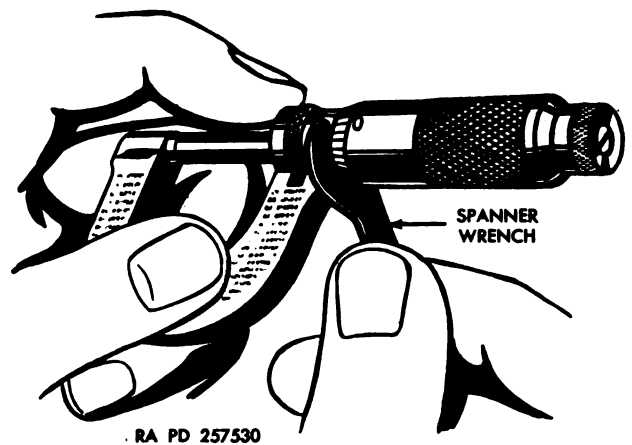

Figure 60. Micrometer adjustment.
i. In adjusting a micrometer to read correctly, the thimble is not set to 0 when the anvil is in contact with the spindle, but is set at some dimension to distribute the error. For example, if a micrometer screw had an accumulating error of 0.0003 inch in the length of its travel, and it were set correctly at 0, it would be off 0.0003 at 1 inch. However, if the micrometer were set correctly in the center of its travel, it would be 0.00015 under at 0 and 0.00015 over at 1 inch, which is a much better condition. Because a micrometer does not return exactly to 0 when anvil and spindle contact does not mean that it is not adjusted properly. Turn the friction sleeve with a small spanner wrench to compensate for minor wear on anvil and spindle or on the screw, as shown in figure 60.